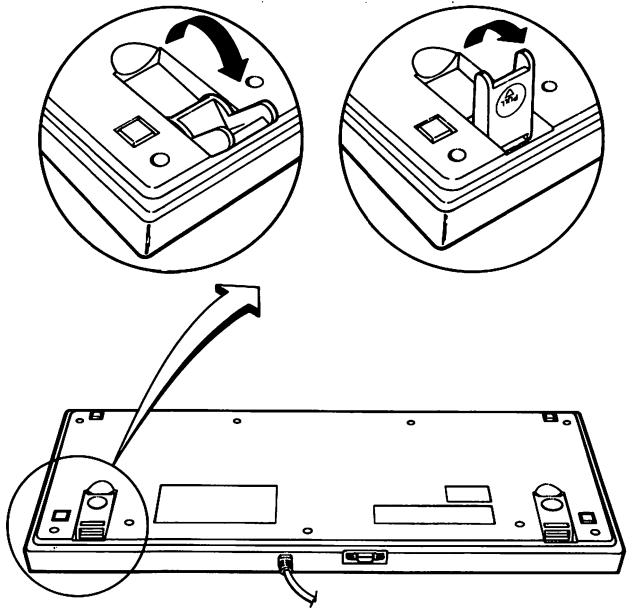

Figure 5-10. Locate the feet on either side of the keyboard.
- Locate the two adjustable feet on either side of the keyboard. (See Fig. 5-10.)